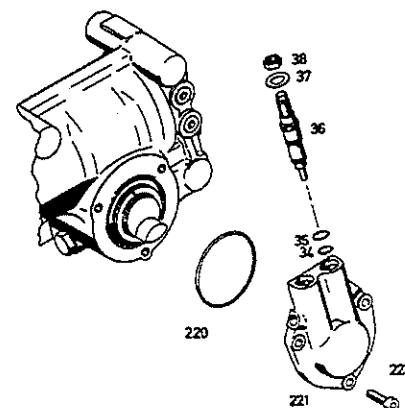

Fig.6
4.1 Versions with valves (36) - steering limiter valves
Unscrew hex nut (38) and remove washers (37) (**Fig.6**).